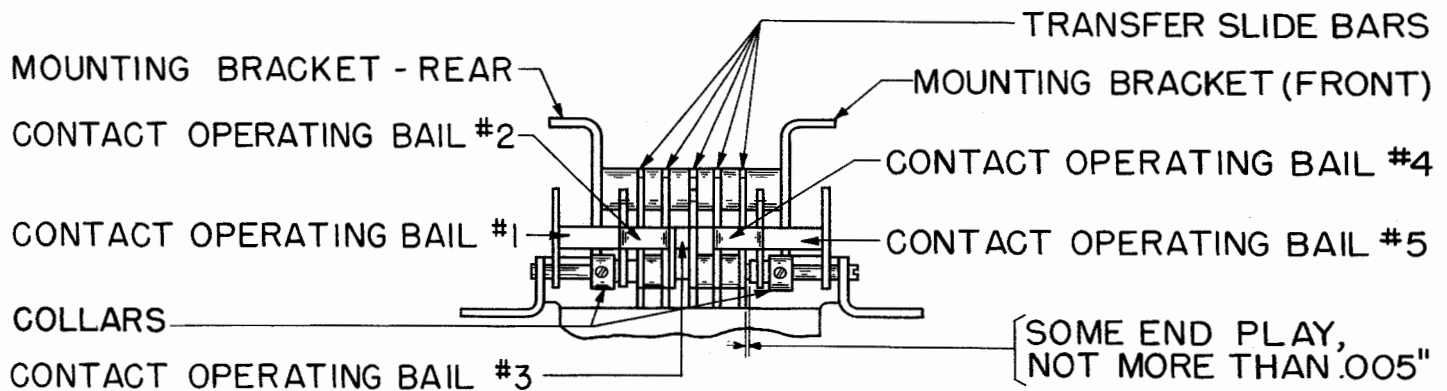

Figure 58
2.123 Sensing-contact Operating-bails (Old-style Bracket): (See also 2.119.) The sensing-contact operating-bails shall line up centrally with the associated camming projections on the transfer-slide bars. The bails shall rotate freely on their shaft with some endplay, not more than that indicated in Figure 58.